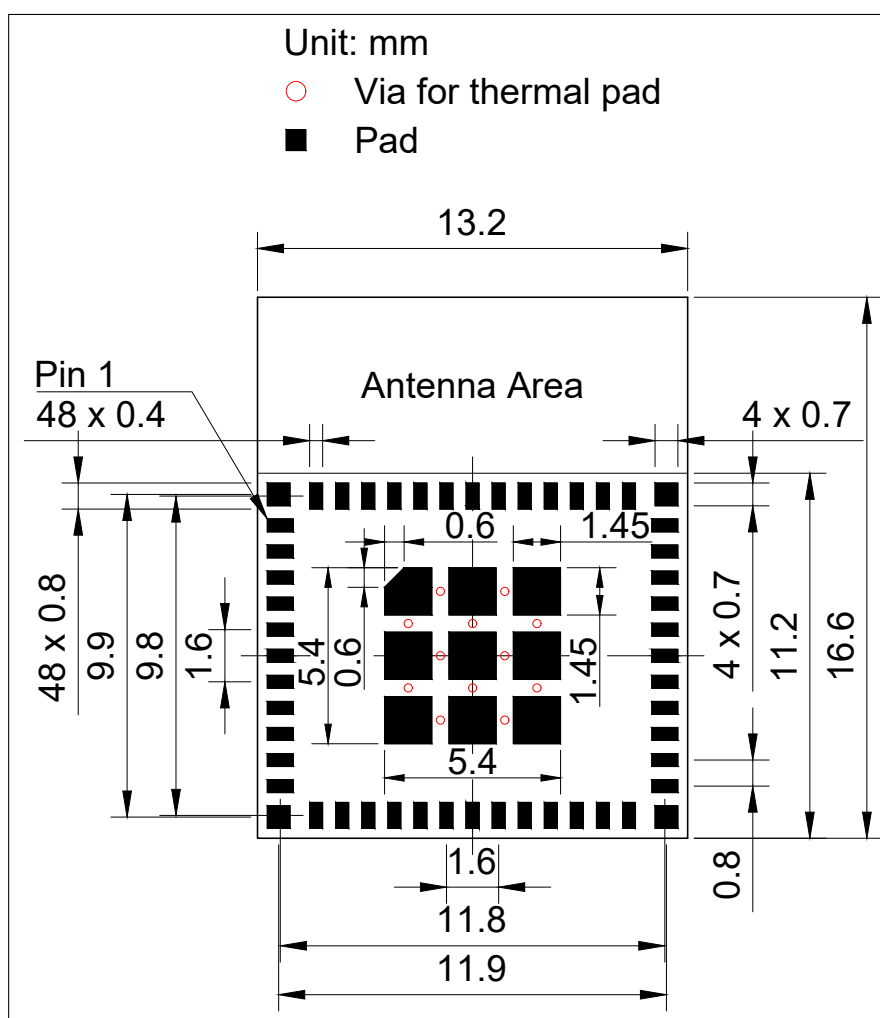
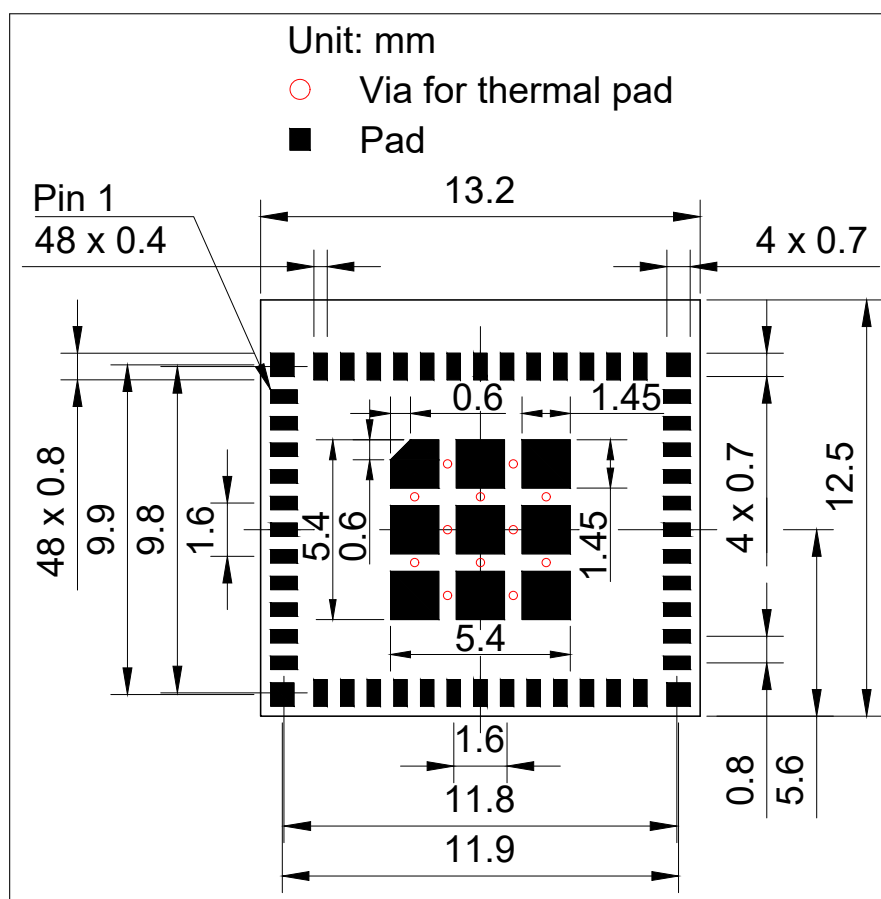

Figure 11: ESP32-C3-MINI-1 Recommended PCB Land Pattern
Figure 12: ESP32-C3-MINI-1U Recommended PCB Land Pattern
- Figures for recommended PCB land patterns with all the dimensions needed for PCB design. See Figure 11 *ESP32-C3-MINI-1 Recommended PCB Land Pattern* and Figure 12 *ESP32-C3-MINI-1U Recommended PCB Land Pattern*.
- Source files of recommended PCB land patterns to measure dimensions not covered in Figure 11 and Figure 12. You can view the source files for ESP32-C3-MINI-1 and ESP32-C3-MINI-1U with Autodesk Viewer.